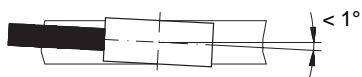

Fig. 8: Mounting of sensor
- Sensor's active side not mounted towards the magnetic strip (see fig. 8).